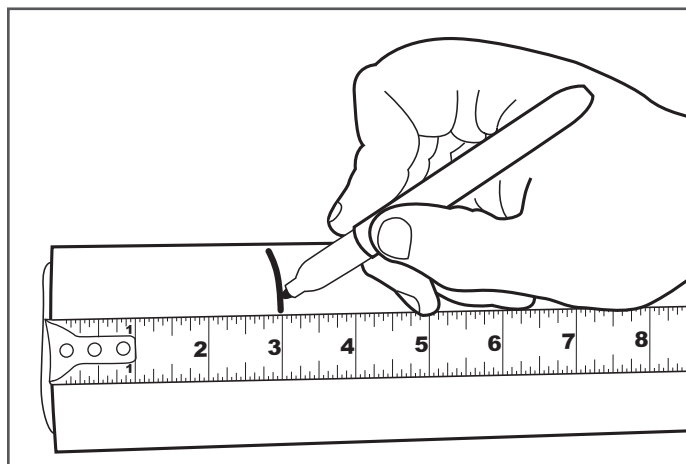

Figure 7-1
2. To determine the jacket strip length measure back 3" (76.2mm) from the end (Figure 7-1).